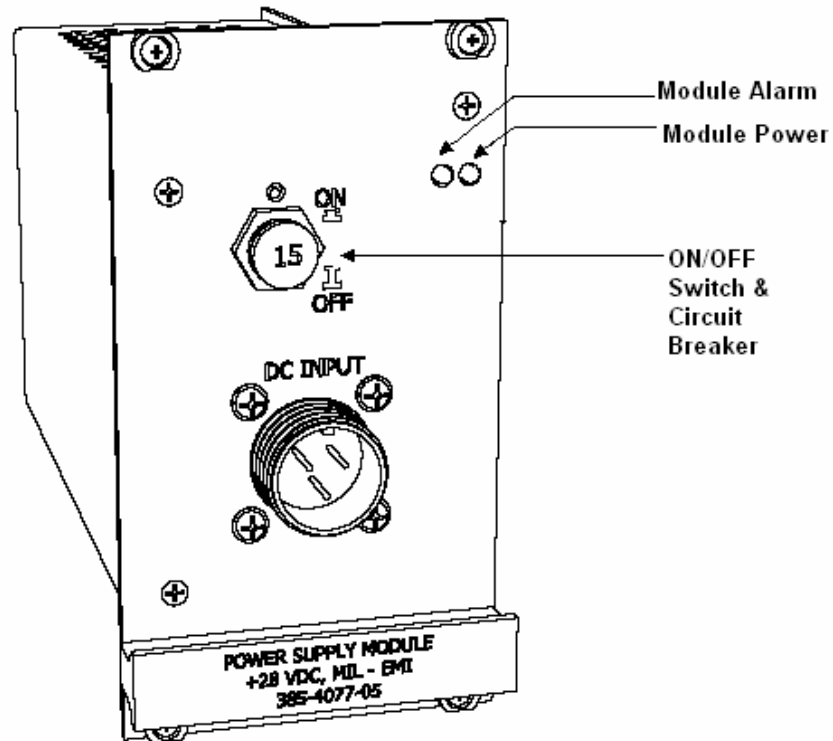

Figure 5-4 28 VDC Power Connections
- 28 VDC input (refer to Figure 5-4, Table 5-4 and paragraph 10.5).